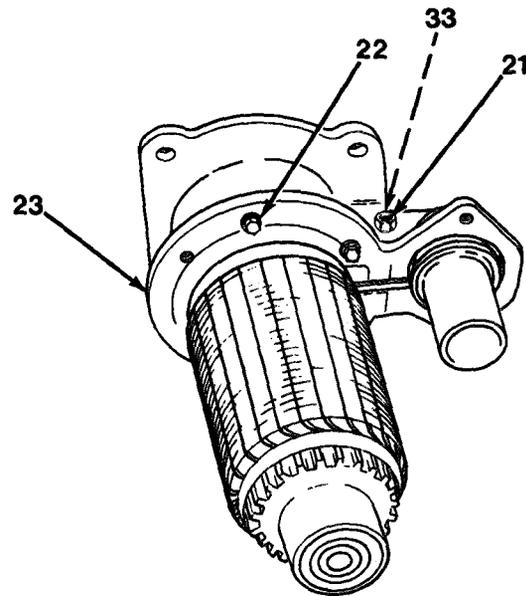

Figure 10-7
8. Remove nut (21), stud lever and washers (33) and four screws (22) from drive housing (23, Figure 10-7).